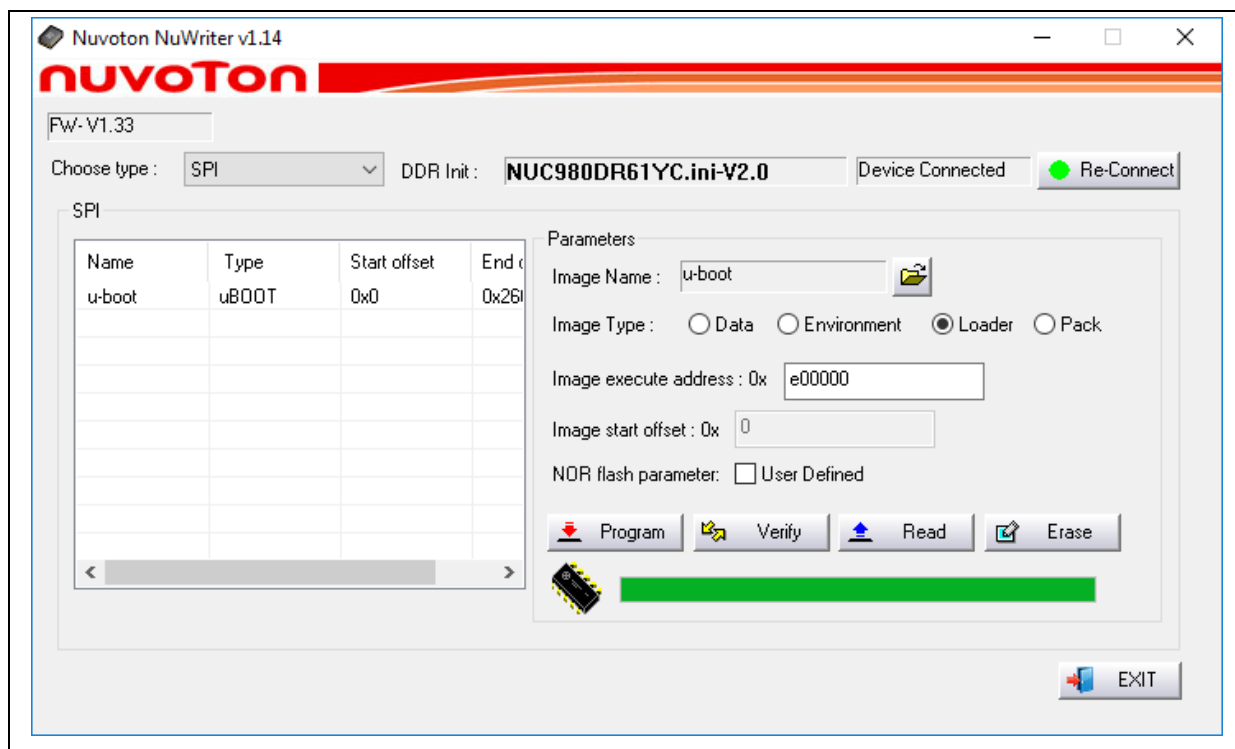

Figure 4-6 Program u-boot
4. According to Figure 4-6, following the steps below to program u-boot.bin: